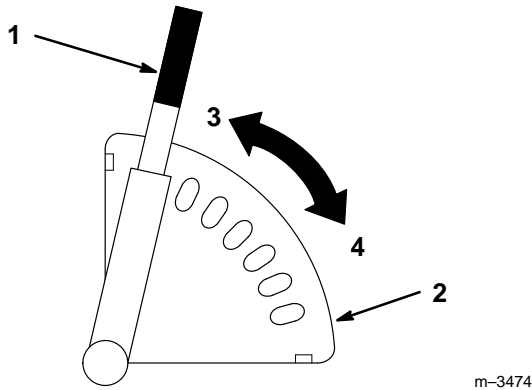

Figure 15
- 1. Start the tractor, apply the parking brake, and raise the deck. Get off the tractor. Pull the height-of-cut lever out to disengage it from the quadrant. Adjust the height of cut to the desired level. Release the lever inward to lock into the quadrant (Fig. 15).